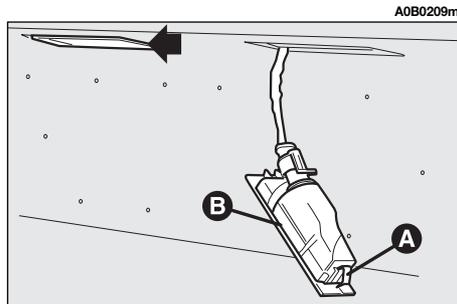

fig. 47
- Remove the number plate light unit using a flat screwdriver protected by a soft cloth on the stopper (**A-fig. 47**).
- Remove the unit (**B-fig. 47**).
– Refit the complete unit (**B-fig. 47**) firstly inserting the catches and then pressing in correspondence with the stopper (**A-fig. 47**).